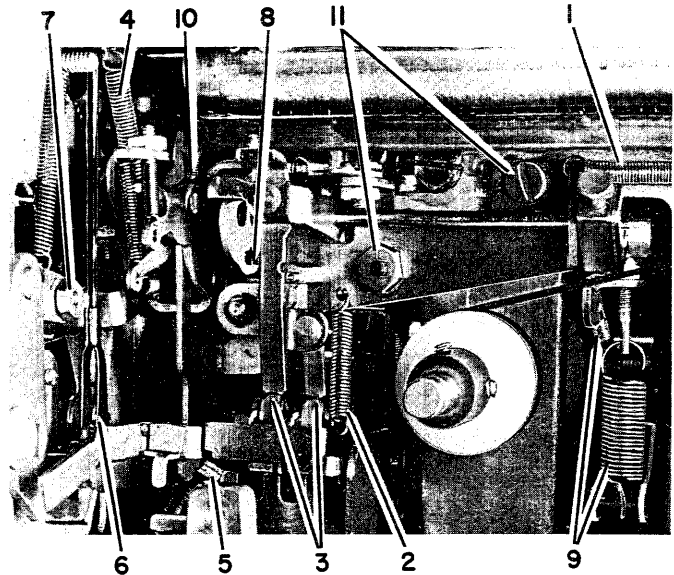

FIGURE 46. Operational Latch Bracket Removal
5. Disconnect the backspace-rack spring (#1, Figure 46).
6. Disconnect the cam-follower spring (#2, Figure 46).
7. Disconnect the spacebar and tab-latch springs (#3, Figure 46).
9. Disconnect the detent spring (#4, Figure 46).
10. Disconnect the carrier-return latch spring (#5, Figure 46).
11. Remove the index-selection link (#6, Figure 46).
12. Remove the carrier-return eccentric by removing the eccentric nut (#7, Figure 46).
13. Remove the escapement link (#8, Figure 46).
14. Disconnect the carrier-return actuating spring and carrier-return actuating-arm spring (#9, Figure 46).
15. Remove the escapement-torque-bar restoring spring (#10, Figure 46).
16. Remove the two mounting screws (the left one is not visible) and one nut (#11, Figure 46).